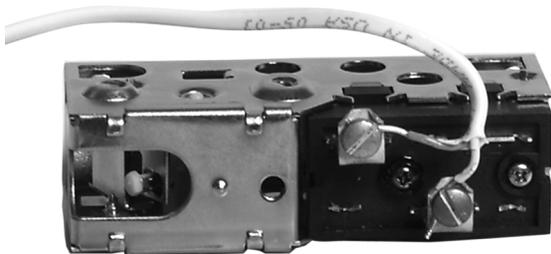

Fig. 41. Wiring Humidistat.
7. Connect the two low voltage control wires to the Screw Terminals on the Control Assembly. See Fig. 41.
10. Connect the wires to the Screw Terminals on the Control Assembly. See Fig. 41 on page 17.